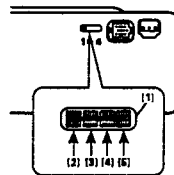

Fig. 5
- This unit can be connected from the second to fourth multi-CD players by using the separately sold multiple installation adapter (CD-P44). Each multi-CD player has an address switch so that the multiple installation adapter can identify which player is which. Set the address switch for each player as shown in Fig. 5.
(Fig. 5)